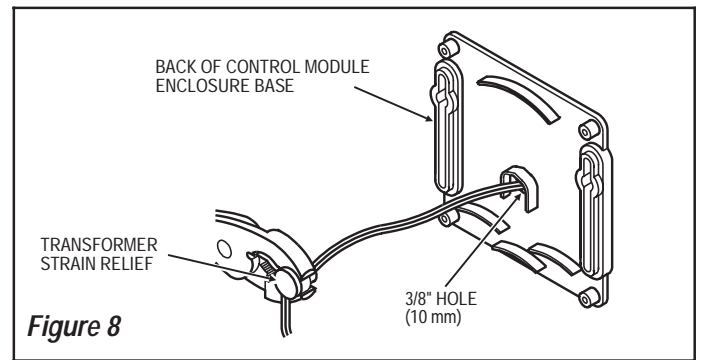
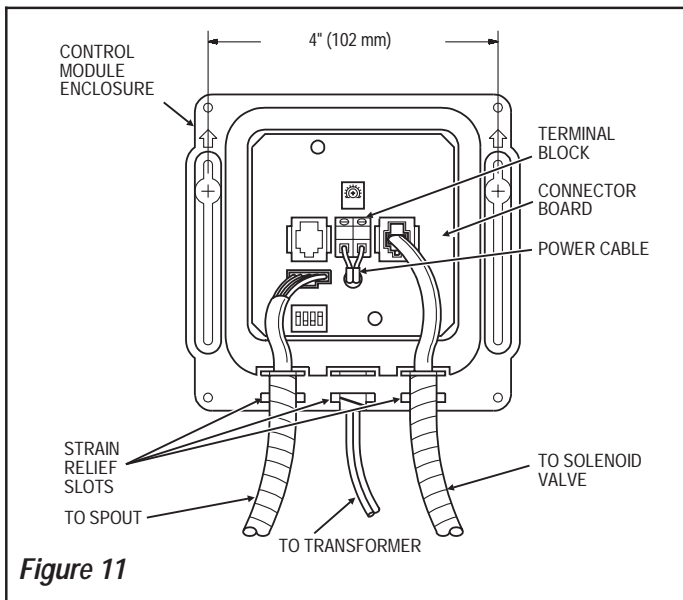

Figure 8
Figure 11
Separate and strip one end of Transformer Power Cable approximately 3/16 to 1/4 inch (5 to 6 mm). Install Transformer Strain Relief 3 inches (76 mm) from stripped end of Power Cable. Squeeze Strain Relief with a pliers and insert Power Cable and Strain Relief into 3/8 inch (10 mm) hole at back of Control Module as shown in Figure 8. Always install right angle Strain Relief so that Power Cable enters the Control Module from the bottom. Connect Power Cable to Terminal Block on Connector Board as shown in Figure 11.
Step 7 — Control Module Connection (Figures 11 thru 13)